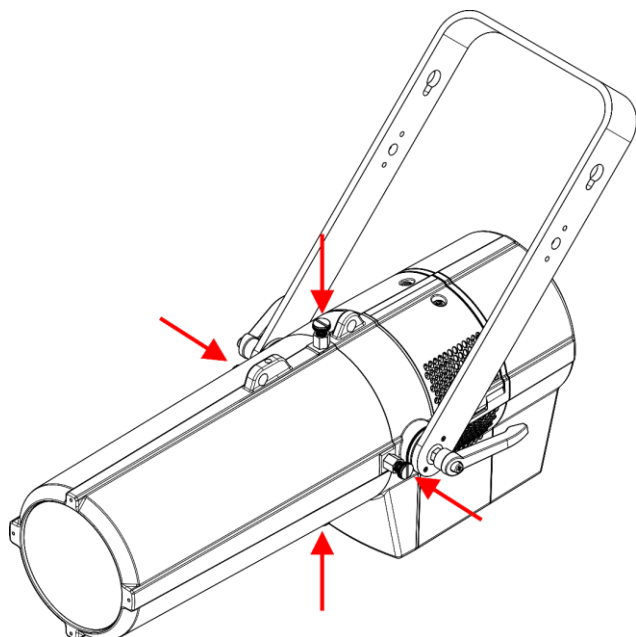
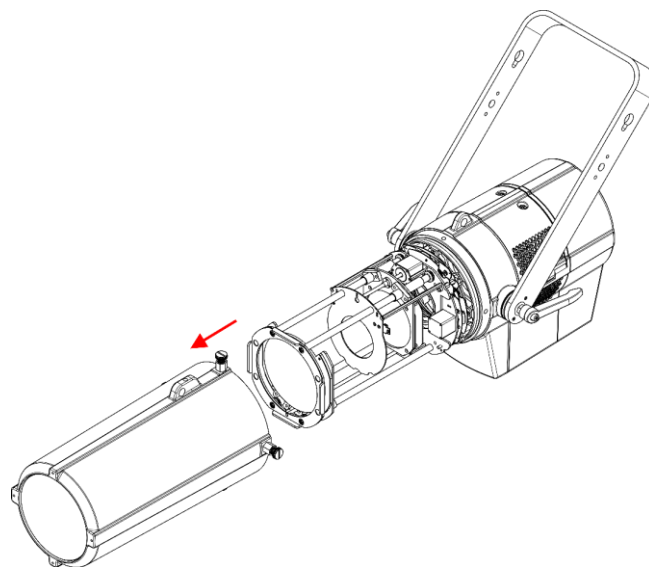

Fig. 07
Fig. 08
- 01) Loosen the 4 cover mounting screws (Fig. 07) and remove the cover (Fig. 08).